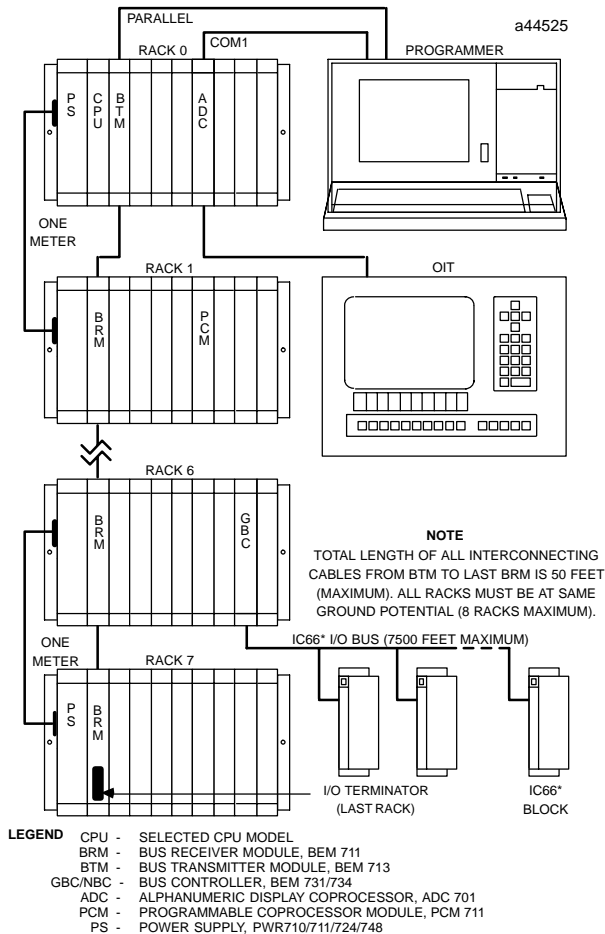

Figure 1. Typical PLC System Configuration
- Install in the rack (see figure 1).